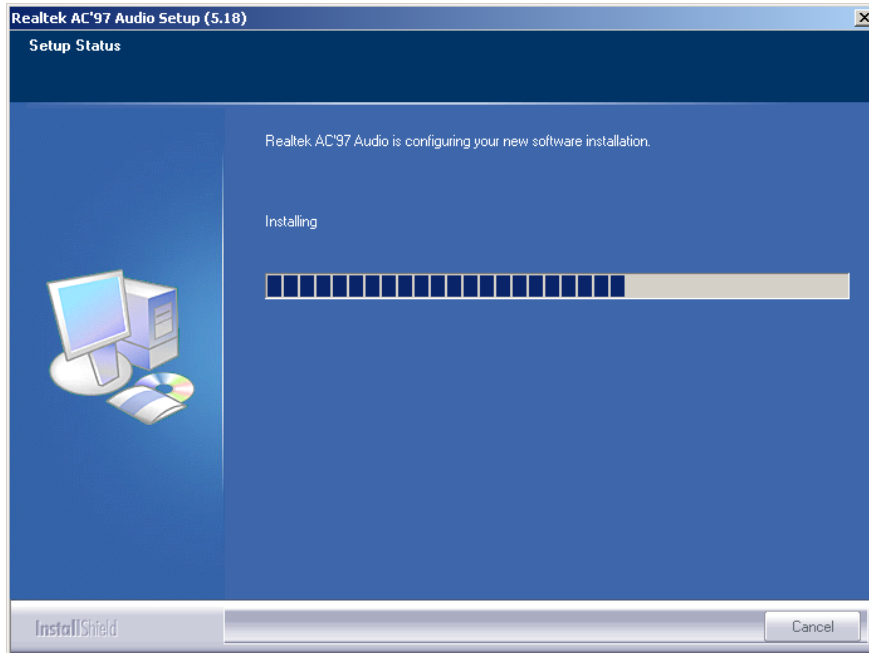

Figure 6-21: Audio Driver Setup Preparation
Step 3: The **Setup Status** screen appears as the driver is installed (**Figure 6-21**).